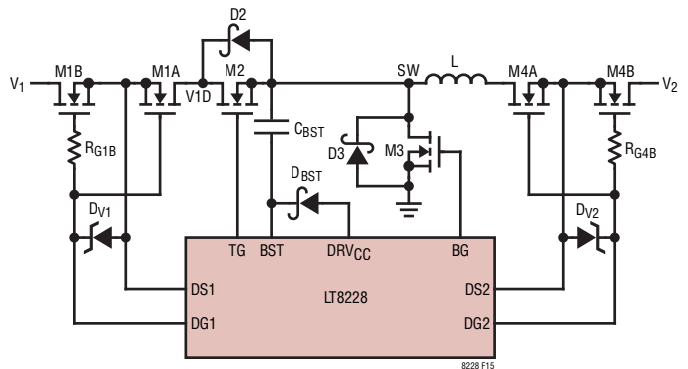

Figure 15. Power MOSFETs and Components Selection
The LT8228 requires six external N-channel MOSFETs as shown in Figure 15: (1) the V₁ protection MOSFETs M1A and M1B, (2) the V₂ protection MOSFETs M4A and M4B, (3) the switching top MOSFET M2 and (4) the switching bottom MOSFET M3. M1B and M4B are optional if no inrush current control or protection against M3 short fault is not required. Important parameters for selecting the